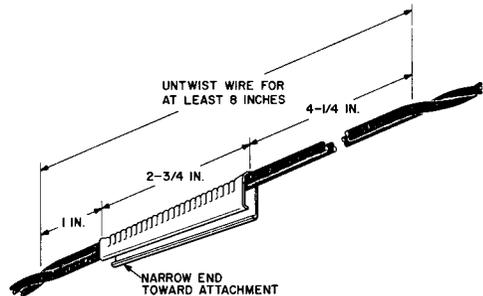

Fig. 8 — Installing Drop Wire Clamp on Twisted Pair Wire
3.03 Untwist the wire for at least 8 inches of its length at the location the clamp will occupy. Place the two conductors side by side in the shell as indicated in Fig. 8.